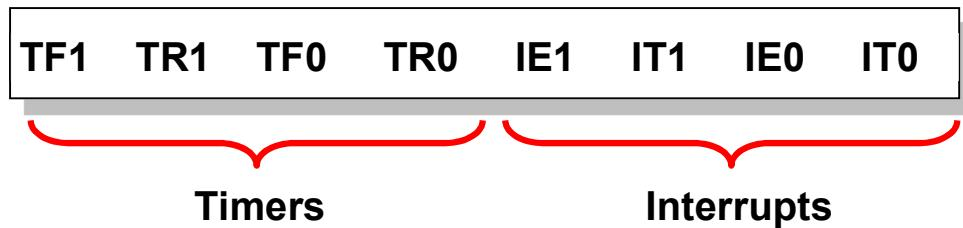

Figure 10.3: TCON Register
- TCON (Timer CONtrol) register is an SFR related to interrupts. It is bit-addressable register as shown in Figure 10.3.